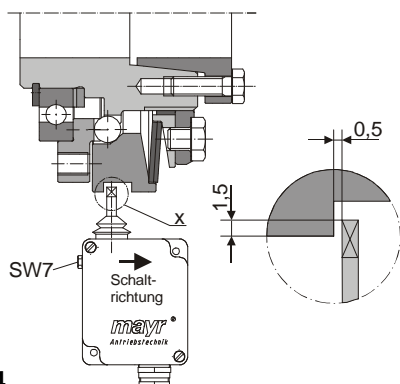

Fig. 14
The switch direction of the mechanical limit switch points in the direction of the adjusting nut (5), or in stroke direction of the thrust washer (3) Fig. 14.